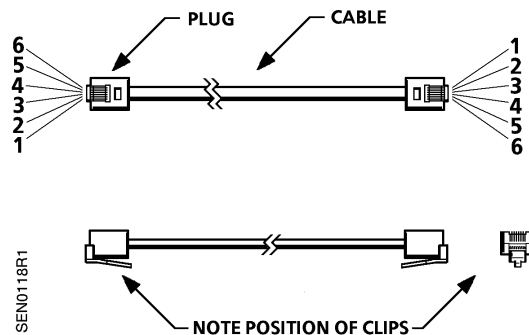

Figure 4. Wiring Pairs.
- Using the room sensor connector tool, attach an RJ11 connector to both ends of the cable. Align the six wires in the same order on the connectors on both ends of the cable. See Figure 4 and Table 1.